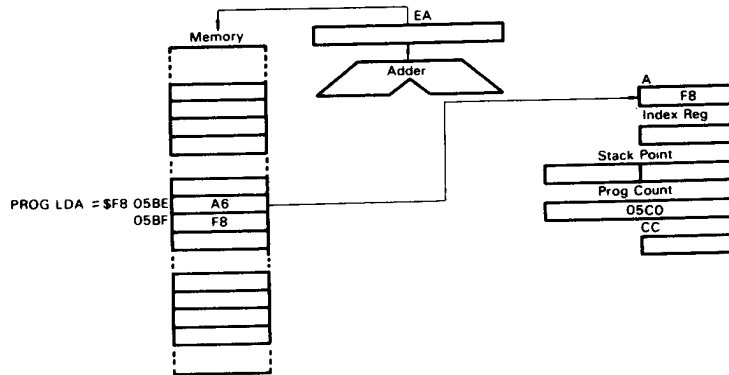

Fig. 57 Example of Immediate Addressing
See Fig. 57. The immediate addressing mode provides access to a constant which does not change during program execution. This access requires an instruction length of 2 bytes. The Effective Address (EA) is the contents of the Program Counter (PC) and the operand is fetched from the byte following the operation code (opcode).